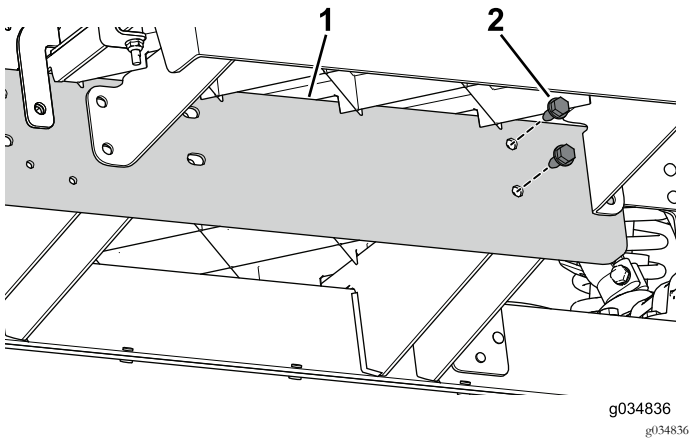

Figure 72
3. Use the 2 bolts (5/16 x 3/4 inch) to loosely install the extension rail to the center channel to the front section of the machine (Figure 72).